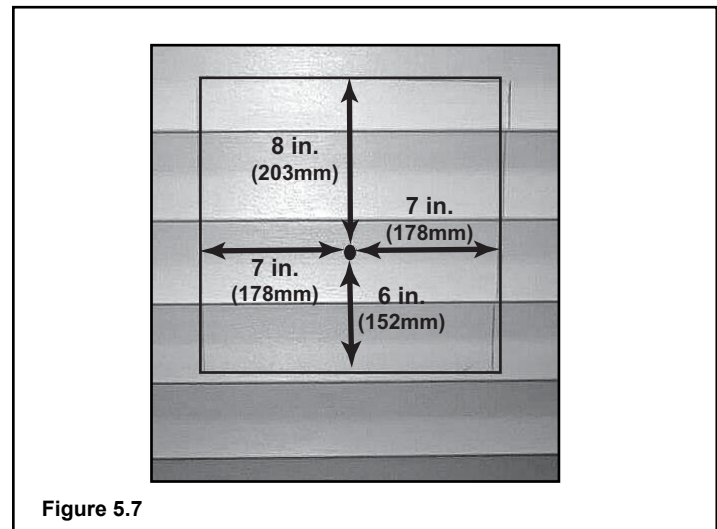

Figure 5.7
- (1) The four wood screws provided should be replaced with appropriate fasteners for stucco, brick, concrete, or other types of sidings.
- (2) A termination cap with a built-in vinyl standoff is highly recommended on a building with vinyl siding. The pilot hole will be 2 in. (51mm) closer to the bottom of the square than the top. Using a framing square, draw a 14 in. x 14 in. (356mm x 356mm) square around the pilot hole. See **Figure 5.7**.